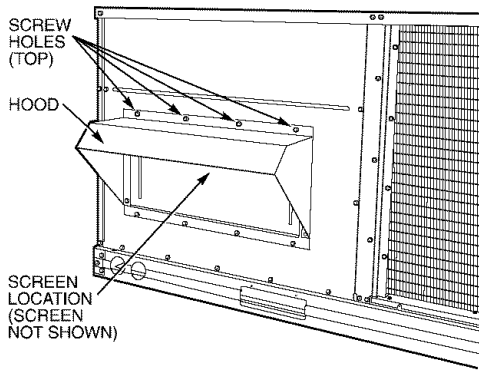

Fig. 19 — Outdoor-Air Damper with Hood Attached
5. Place hood on front of outdoor air opening panel. See Fig. 18 for hood details. Secure top of hood with the 4 screws removed in Step 3. See Fig. 19.
9. Remove and save screws currently on sides of hood. Insert screen. Secure screen to hood using the screws. See Fig. 19.